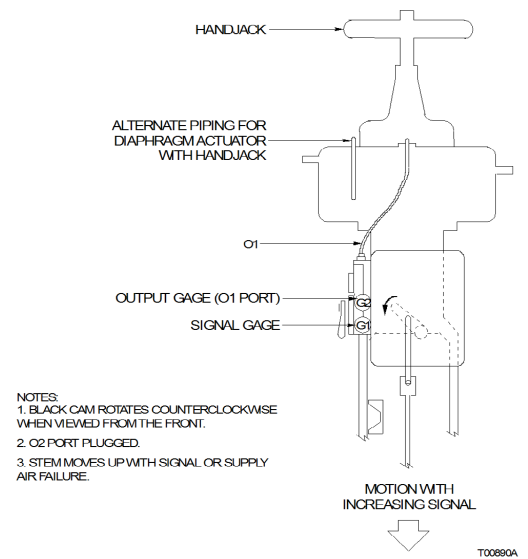

Figure B-6. Direct Acting, Top Loaded, Single Acting Tubing Example
3. Connect the output ports O1 and O2 as required to provide the desired direction of rotation. Figures B-6, B-7, B-8 and B-9 show
NOTE: The piping arrangements shown in Figures B-6, B-7, B-8, B-9 and B-10 are general examples and may not reflect the arrangement required for the application.